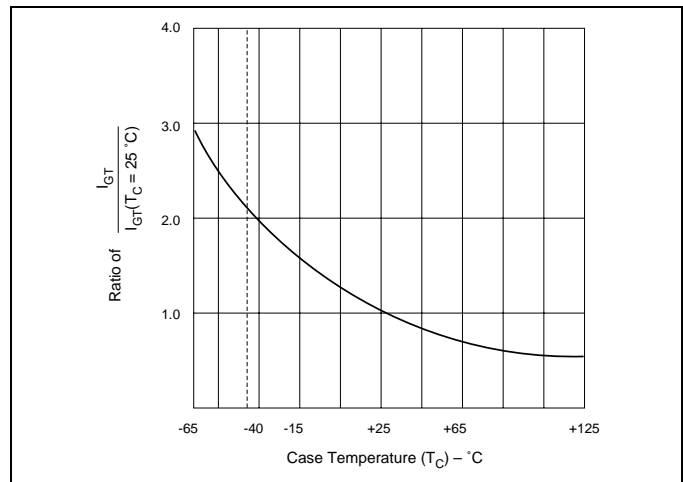

Figure E2.11 Normalized DC Gate Trigger Current for All Quadrants versus Case Temperature
- See Figure E2.11 for I_{GT} versus T_C .